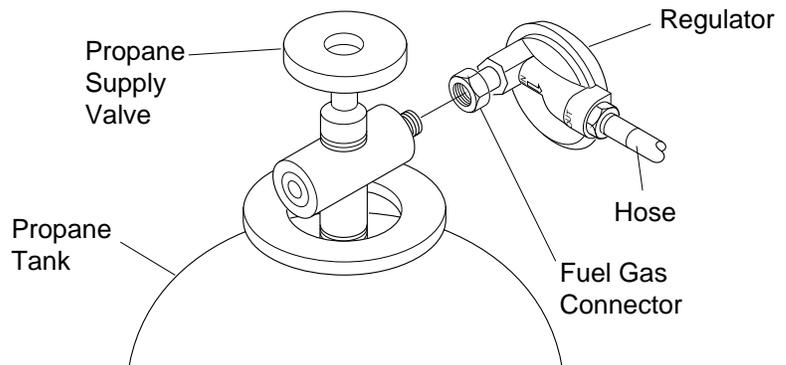

Figure 3 - Regulator Position
2. Connect fuel gas connector on hose/regulator assembly to propane tank(s). Tighten firmly using wrench. **IMPORTANT:** Position regulator so that hose leaving the regulator is in a horizontal position (see Figure 3). This places the regulator vent in the proper position to protect it from the weather.